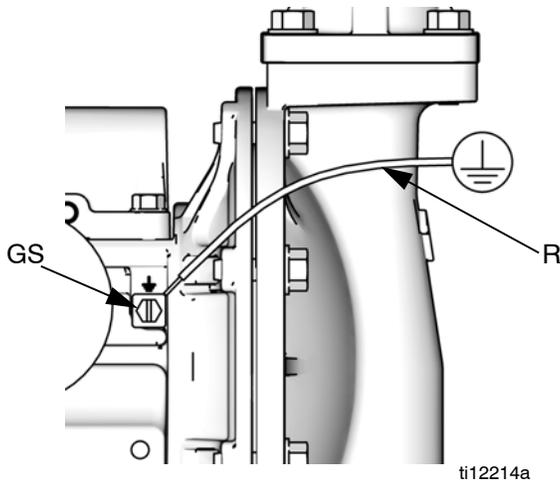

FIG. 1. Ground screw and wire
Pump: See FIG. 1. Loosen the grounding screw (GS). Insert one end of a 12 ga. minimum ground wire (R) behind the grounding screw and tighten the screw securely. Connect the clamp end of the ground wire to a true earth ground. A ground wire and clamp, Part 819.0157, is available.